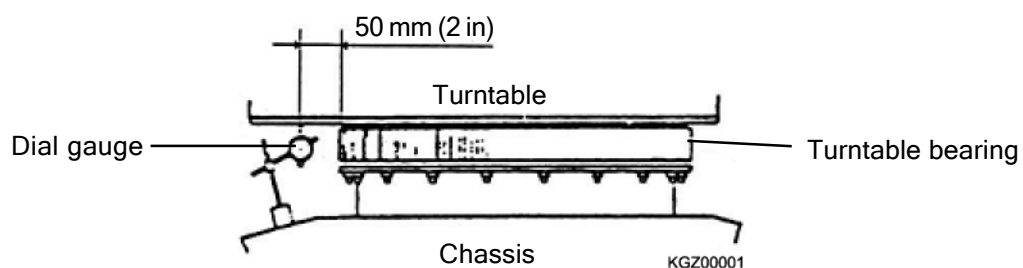

Fig. 2-6 Checking freeplay
- a. Set a dial gauge between the turntable and the chassis as shown in the Fig. 2-6.